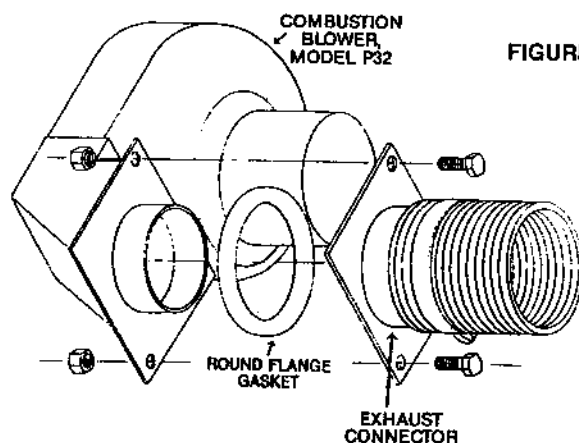

FIGURE 10
**d. On Model P32 you can easily detach the vent at the combustion blower transition (see figure 10). To clean the chimney, remove bolts. Make sure gasket is in place and bolts are tightened equally when re-attaching.**